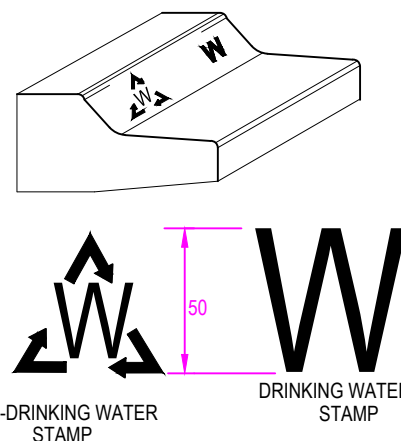

FIGURE 110-I: SERVICE DUCT KERB MARKINGS
- Permanently stamp in wet kerb concrete a "W" (for DW), or a non drinking water symbol (as per Figure 110-G) in line with the service connection conduit on both sides of the road.